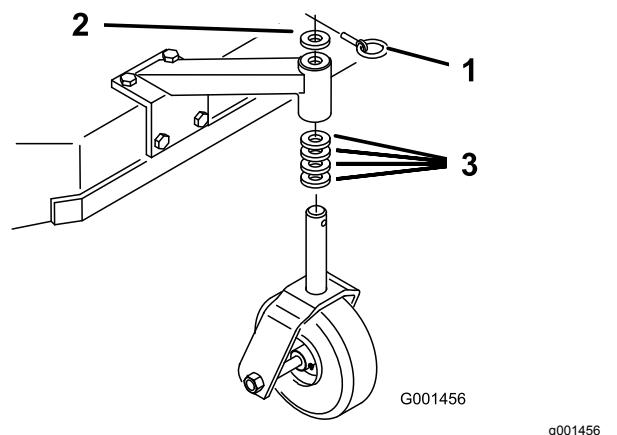

Figure 17
2. Remove the latch pin, slide the caster from the support, and change the spacers (Figure 17).
3. Install the caster in the support and insert the latch pin (Figure 17).
1. Using the Height-of-Cut Chart \(page 22\), adjust the caster spacers to match with the axle hole selected (Figure 17).